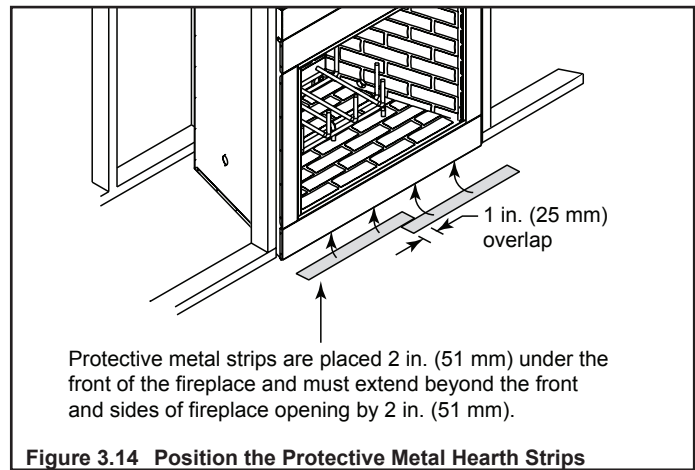

Figure 3.14 Position the Protective Metal Hearth Strips
- Metal strips must extend beyond the front and sides of the fireplace opening by at least 2 in. (51 mm), Figure 3.14).